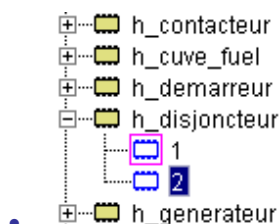

Figure 65 : Tree structure versions
- Click  to access the tree structure versions of the selected model (Figure 65),
Caution : If the model has several versions, the duplication is carried out only in the last version. To duplicate another version of the component, it is necessary to select the version in the tree structure version model (Figure 65) before activating the command **Model ... → Duplicate**.
Caution : If the model has several versions, the copy is carried out only in the last version. To copy another version of the component, it is necessary to select the version in the tree structure version model (Figure 65) before activating the command **Model ... → Copy**.
When the new component version has been created, it is inserted in the tree structure versions (Figure 65).